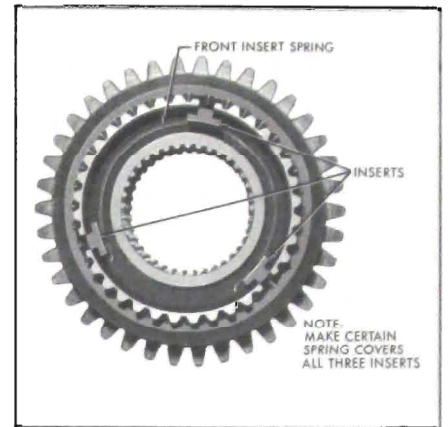

Figure 4-18—Installing Front Insert Spring
5. Install front insert spring in hub as shown in Figure 4-18.